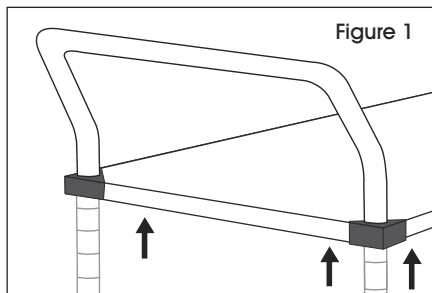

Figure 1
1. Slide solid top shelf up the posts one end at a time, handles facing out. (See Figure 1)